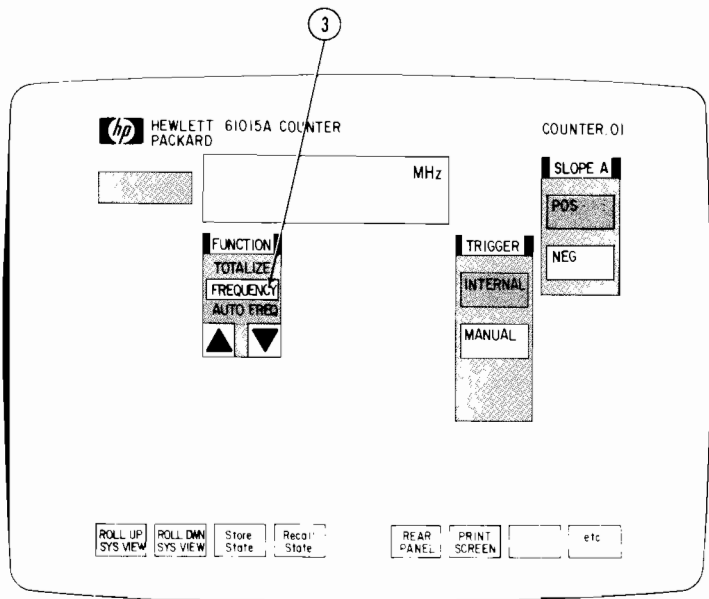

Figure 2-3. Activating The Frequency Function
Step 3 - The word FREQUENCY now appears in the center box but the Counter is still in the auto-frequency function as shown by the bright box around AUTO FREQ. To activate the frequency function, point to and select FREQUENCY as shown in Figure 2-3.